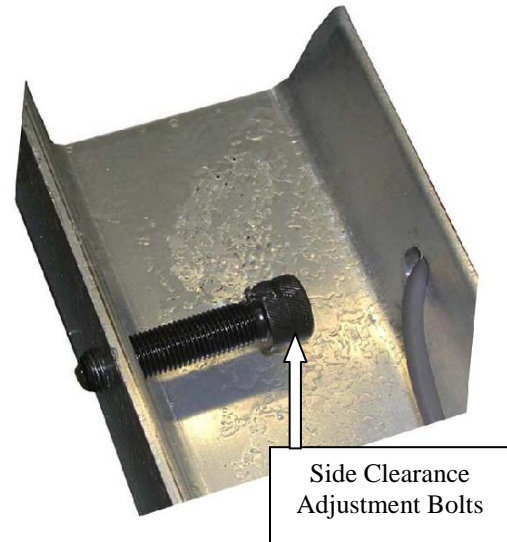

Figure 7: Side Clearance Adjustment Bolts
STEP 10: (Figure 7) Adjust the eight (8) Side Clearance Adjustment Bolts, so that the platform base is at an equal distant from all sides of the frame. Tighten bolts to secure Platform Assembly in place.